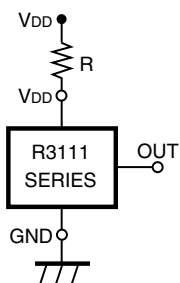

Figure 9
1. In Figure 9, When R3111xxxxC is used, and if an impedance is connected between Voltage Supplier and the V_{DD} Pin of R3111xxxxC Series, the operation might be unstable by cross conduction current at detection.
When R3111xxxxA is used in Figure 9, if the value of R is set excessively large, voltage drop may occur caused by supply current of IC itself and Detector threshold may vary.